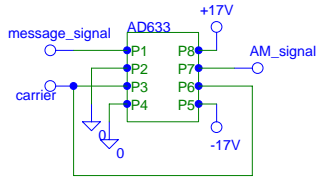

Fig. 1 AM modulator
- From the functional block diagram of Fig. 1 in the AD633 data sheet, build a PSPICE model of this multiplier circuit considering the following hints: [4]
- Using your PSPICE model of the AD633, (a) simulate the output of the circuit of Fig. 1 of this experiment. The parameters for the message signal $x(t)$ are: Sine wave, $A_x = 8$ V, $f_x = 500$ Hz, and for the carrier signal: Sine wave, $A_c = 5$ V, $f_c = 9$ kHz. Use a time span of $TS = 5$ ms. For the simulation you need to connect a resistor (> 1 k Ω) from the output to ground in order to obtain the simulated output [4]. (b) To observe an overmodulated signal, repeat the previous step with $A_x = 13$ V, $f_c = 18$ kHz, and $TS = 4$ ms [4].
1. With the power supply off, assemble the circuit of Fig. 1. Use FG1 as the message signal and FG2 as the carrier signal. Set the following parameters in FG1: Amplitude=8 V, Frequency=500 Hz, sine wave. For FG2: Amplitude=5 V, Frequency=9 kHz, sine wave. Connect channel 1 probe of the oscilloscope to the output of the modulator (at pin 7).